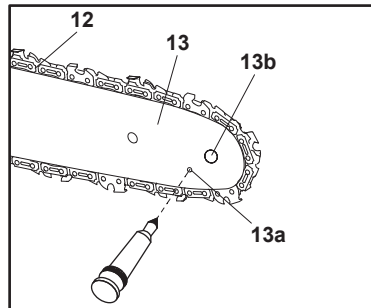

Fig. 35
2. Using a disposable lube gun, insert the needle nose into the lubrication hole (13a) (Fig. 35) and inject grease until it appears at the outside edge of the sprocket wheel (13b).